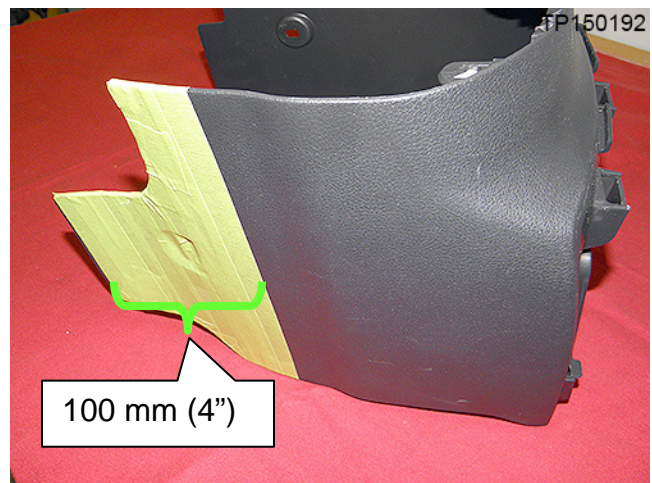

Figure 7
- Tape the Center Console Lower on front and back with 100 mm (approximately 4 inches) of masking tape as shown in Figure 7.